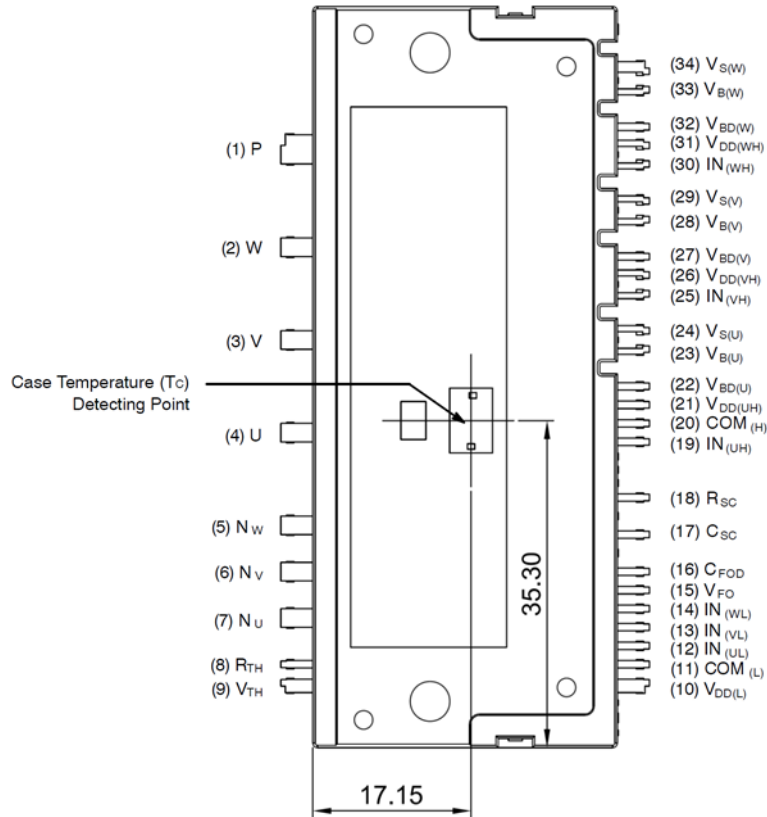

Figure 10. Case Temperature (T_C) Detecting Point
4. For the measurement point of case temperature (T_C), please refer Figure 10. DBC discoloration and Picker Circle Printing allowed, please refer to application note AN-9190 (Impact of DBC Oxidation on SPM® Module Performance).